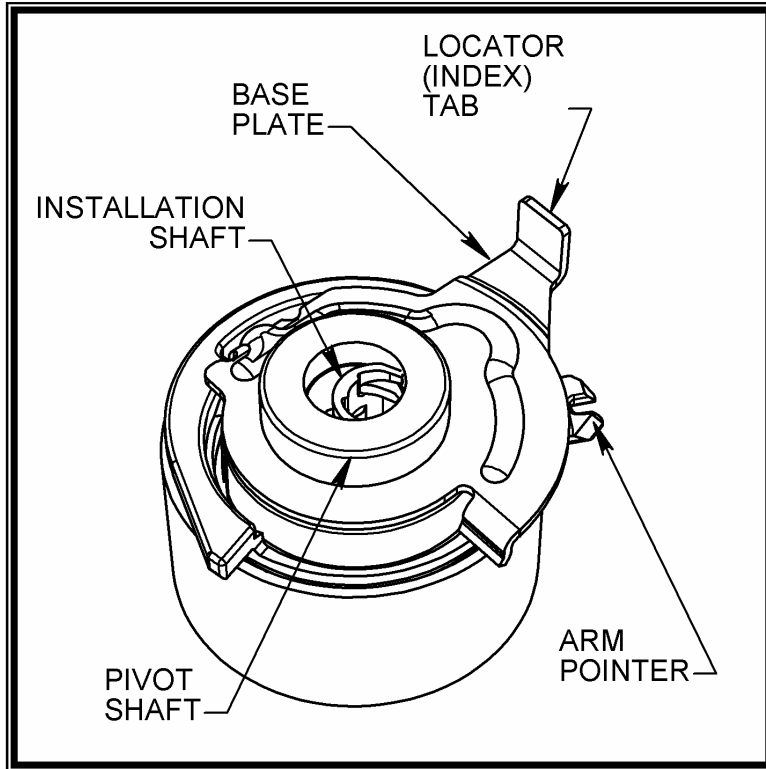

Figure 2: Back view of the (TBT) Timing Belt Tensioner.
5. Mount the new TBT (see Figs. 2 and 3) on the engine ensuring that the tensioner's *Locator Tab* is engaged with the slot in the engine.